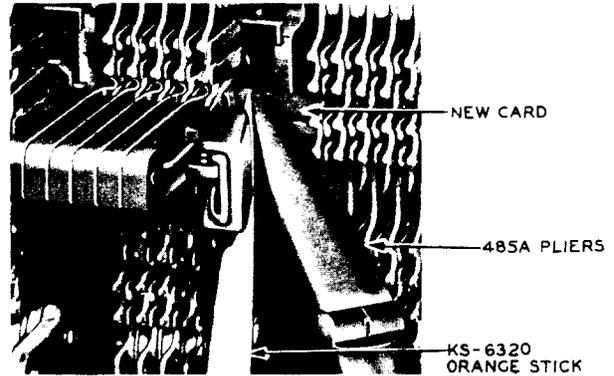

Fig. 9 - Inserting New Card in Spring Combination
(3) Insert the card armature end first in the space between the unit on which the card is to be replaced, and the vertical unit at the right until the long tang end of the card is adjacent to the card opening in the vertical unit. Then while holding the card in this position, rotate the card in a horizontal direction so that the long tang end of the card enters the card opening as shown in Fig. 9. Use the orange stick to assist in this operation and to free the card if it wedges or binds on the springs. Gently slide the card to the left until the card lines up with those immediately above and below it. When the card is in this position, grasp the armature end of the card with the tweezers and rotate it 90 degrees, so that the pointed side of the card at the armature end will point toward the corresponding part of